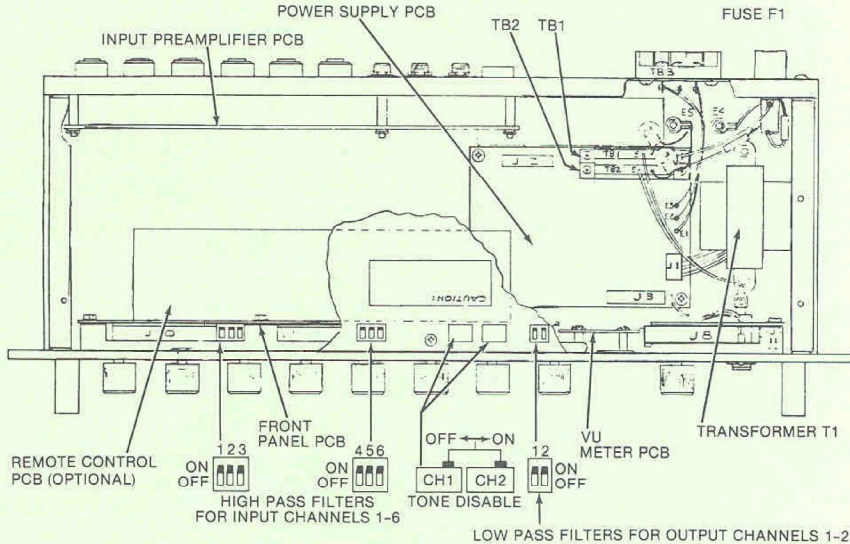

Figure 1. Internal View
Equipment supplied for domestic use is provided with the power transformer primary strapped for 120 volts. Specified voltage rating is located on the chassis, adjacent to the power cord. See Figure 1. Verify that line voltage is in accordance with the specified voltage rating before connecting the 1692A to line power.
- 2. Locate terminal block TB1/TB2 within the chassis; see Figure 1.